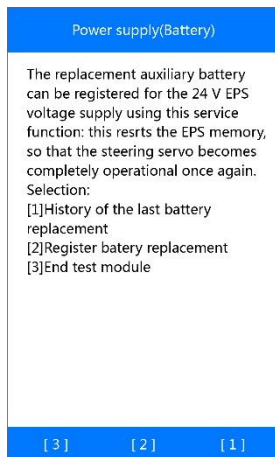

Figure 5-65 Sample Auxiliary Battery Functions
- 1) Press **[2]** to register the auxiliary battery replacement (*Figure 5-65*).